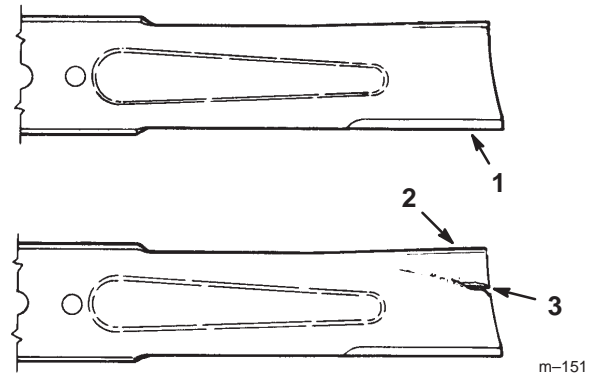

Figure 26
1. Inspect the cutting edges (Fig 26). If the edges are not sharp or have nicks, remove and sharpen the blades. Refer to Sharpening the Blades on page 28.
2. Inspect the blades, especially the curved area (Fig. 26). If you notice any damage, wear, or a slot forming in this area (item 3 in Fig. 26), immediately install a new blade.